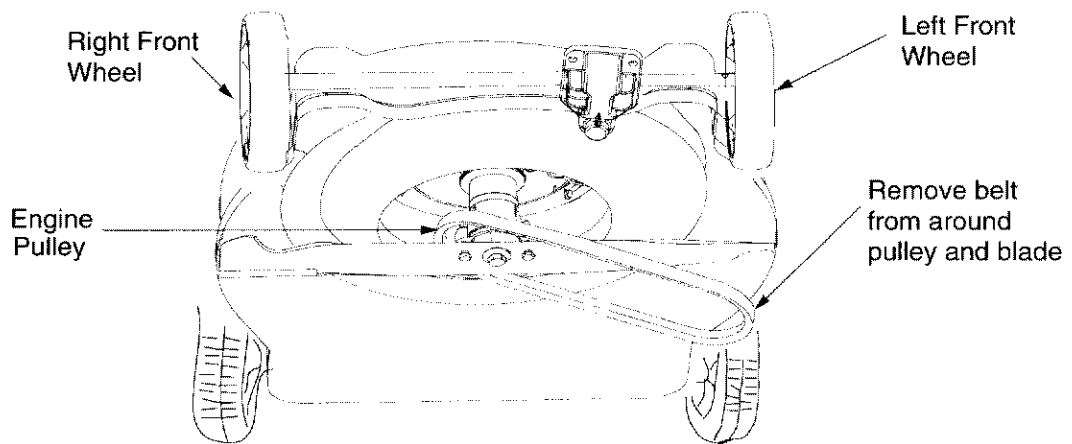

FIGURE 14
- Lift the front of the deck and remove the belt from the engine pulley and around the blade. See Figure 14.